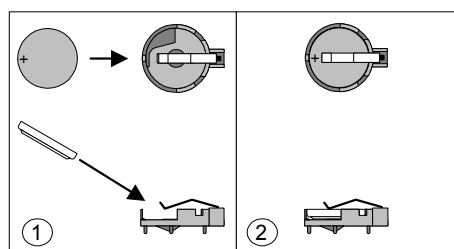

Figure 33: Removing the Battery
5. Figure 2 shows the battery location. Gently pry the battery free from its socket, taking care to note the "+" and "-" orientation of the battery (Figure 33).